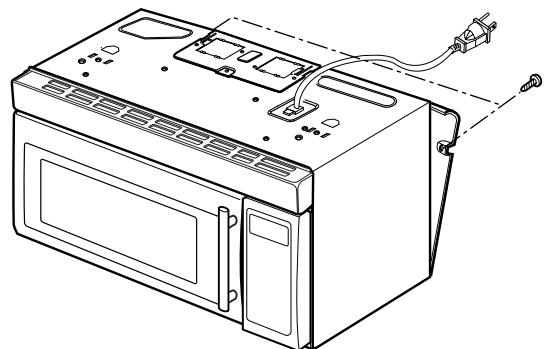

Figure 17
- (1) Remove the mounting plate by loosening mounting plate screws (1 or 2 screws) securing it to the back plate. (See Figure 17)